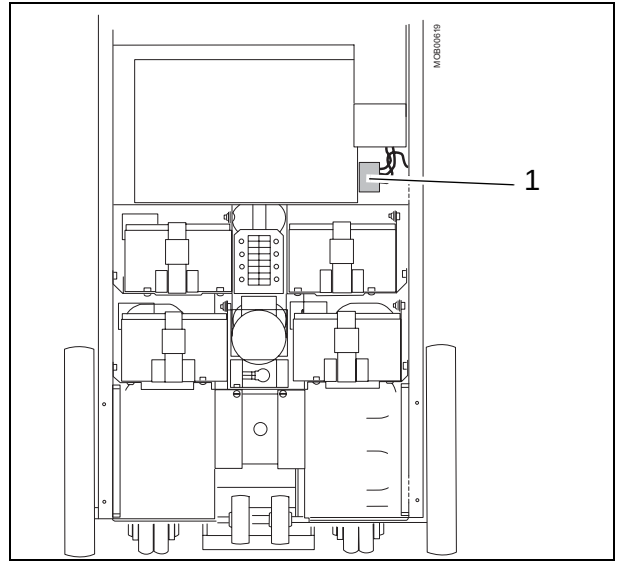

Fig. 3
- Disconnect the main switch plug K52 (pos. 1 / Fig. 3).